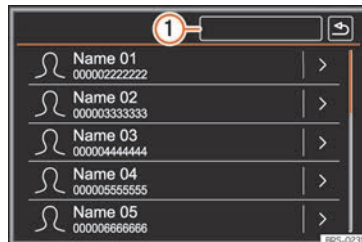

Fig. 225 Contacts Menu (phonebook).
- Press the **Search**  function button »» **Fig. 225** to open the search window.
- Press the function button **▷** »» **Fig. 225** located next to the entry in the contact list²⁾.